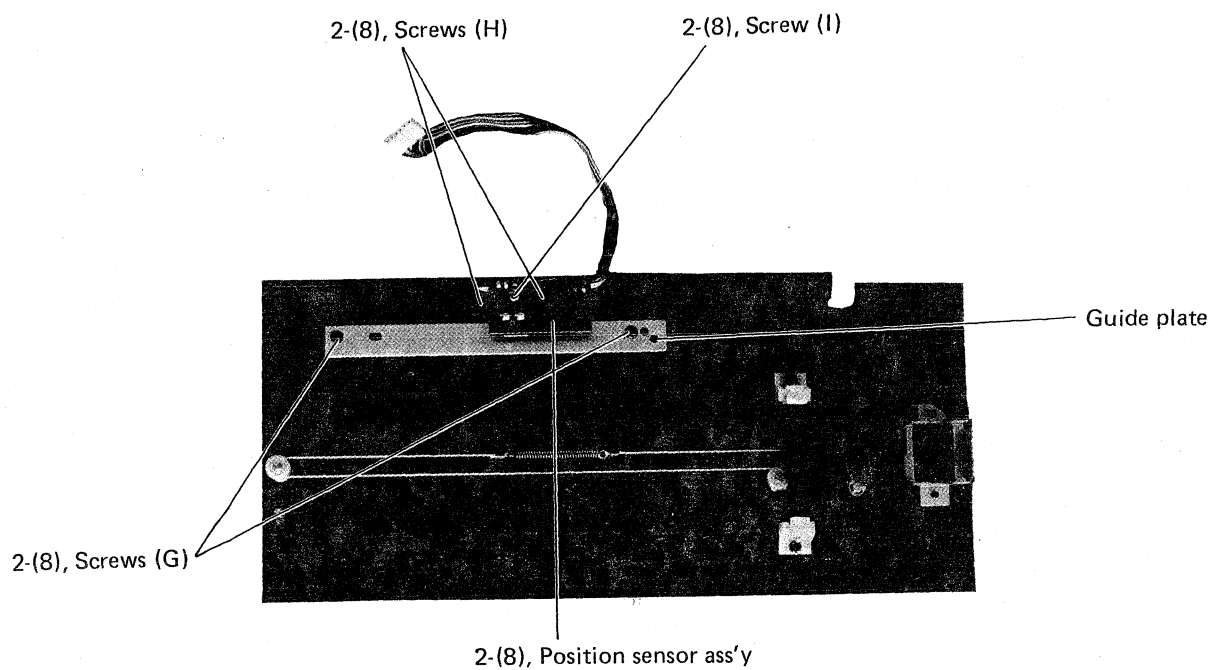

Fig. 7
- (8) Dismount position sensor PWB ass'y. (See fig. 7)
- 2. Remove 2 pcs. of screws (G) from guide plate. (See fig. 7)
- 3. Remove 2 pcs. of screws (H) from position sensor ass'y. (See fig. 7)
- 5. Remove one piece of each screw (I) from an upper PWB and a lower PWB. (See fig. 7)